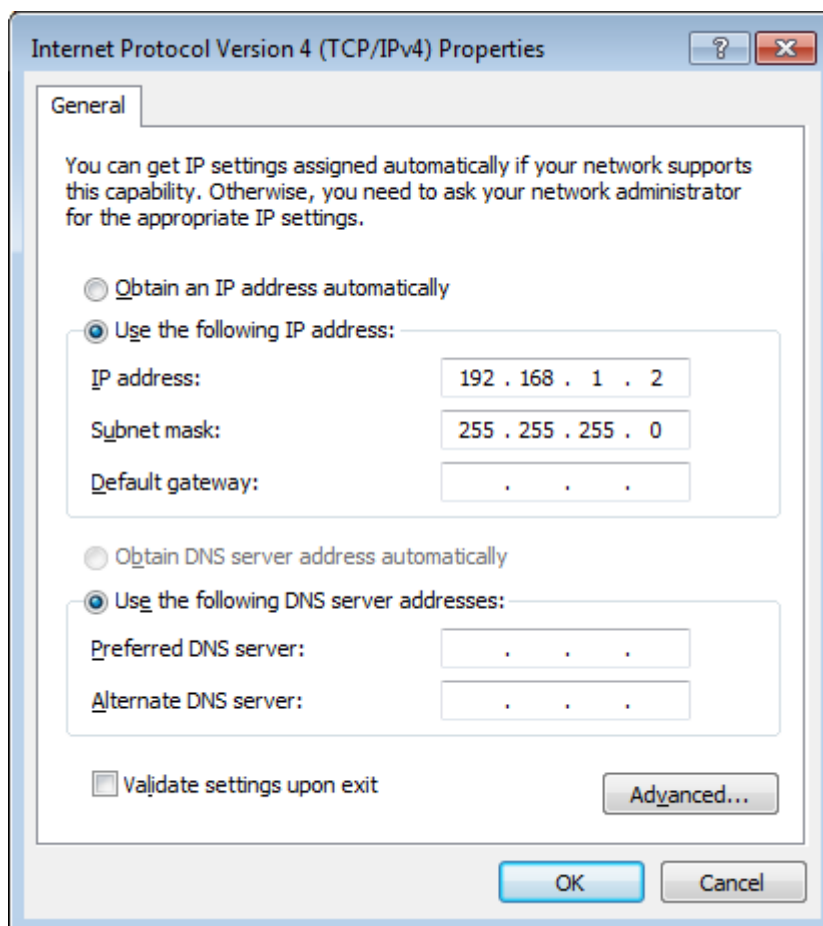

Figure 2.17: Static IP configuration of PC
1. Use one of the network cards and set it to static IP in TCP/IPv4 using the IP address **192.168.1.n**, where $n=[2..9]$ and the mask **255.255.255.0**, see Figure 2.17 (go to **Control Panel → Internet Options → Network and Internet → Network and Sharing Center → Local Area Connection → Properties**).